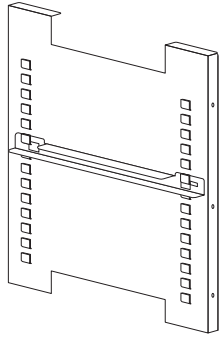

Figure 1-10. Channel Installed
4. Figure 1-10 shows one of the channels installed on the right side duct.